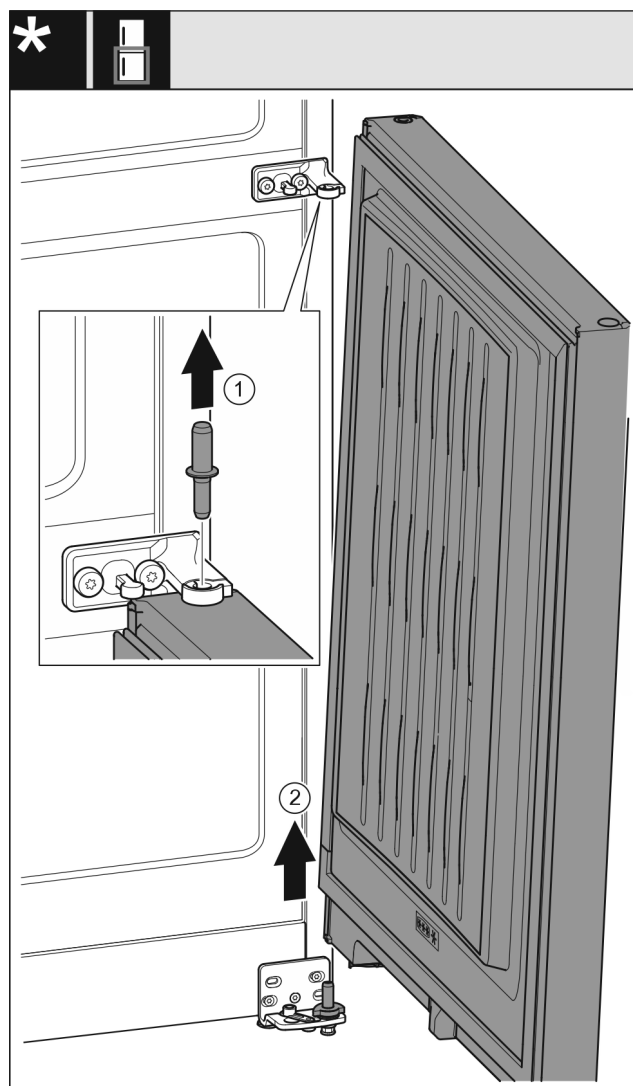

Fig. 8
- Pull out the bolts upward. Fig. 8 (1)
- Swing the door out, pull it upward and set it aside. Fig. 8 (2)